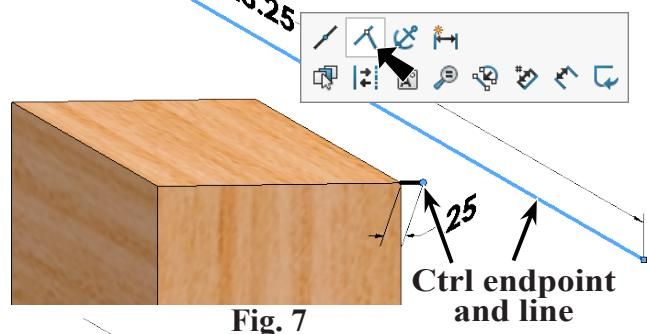

Fig. 7
Step 18. **Ctrl click endpoint of short line and long line. Release Ctrl key and click Make Coincident ** on the context toolbar, Fig. 7.